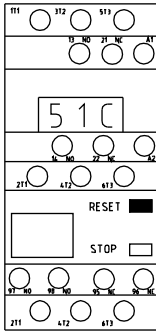

Figure 25
- 1 \ Please refer to figure 19,20,21 to find the 51C thermostat to press "RESET" button, to restart the cooler. (See Figure 25)